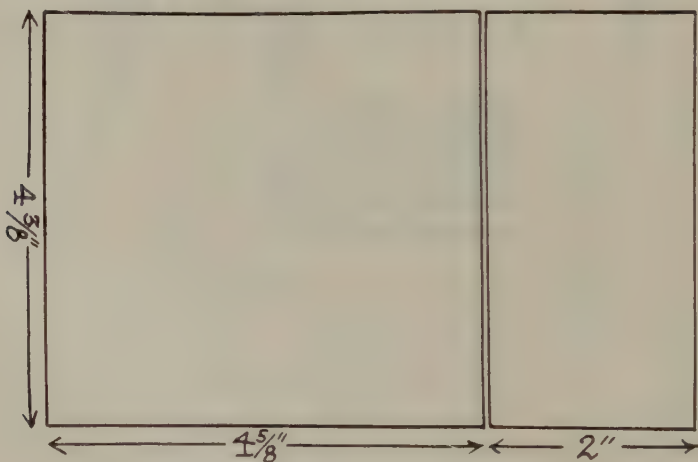
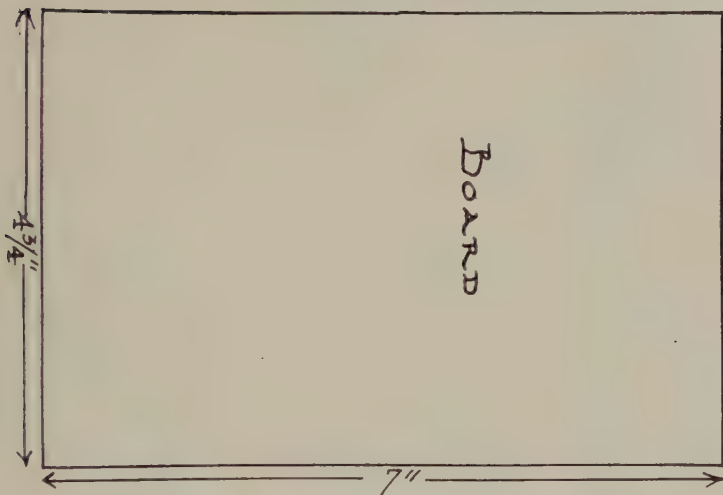

FIG. 65—EASEL BOARDS FOR CALENDAR
FIG. 66—FACE BOARD FOR CALENDAR
1. Take the sheet of stiff binders board provided, test it for the grain and on the board shears cut a piece $4\frac{3}{4}"$ x 7" with the grain the 7" way (Fig. 66), another piece $4\frac{3}{8}"$ x 2", grain $4\frac{3}{8}"$ way and a third $4\frac{3}{8}"$ x $4\frac{5}{8}"$, grain the $4\frac{5}{8}"$ way. (Fig. 65.)